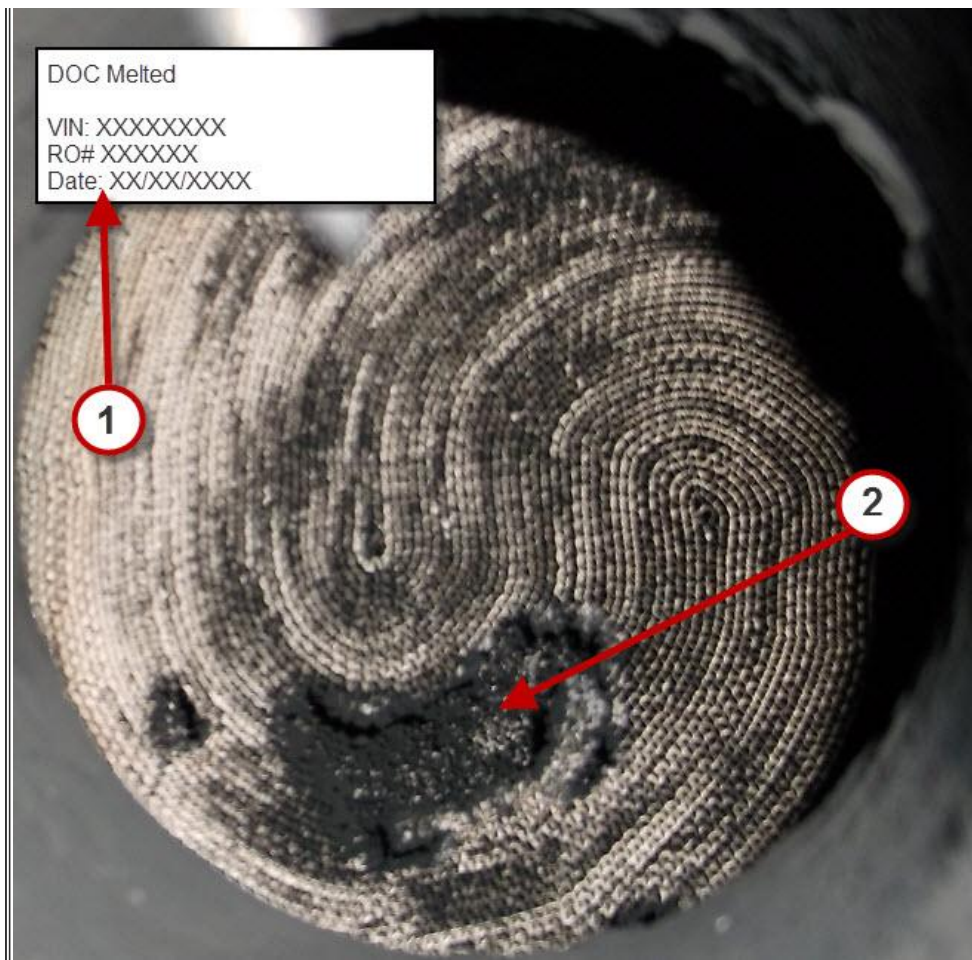

Figure 11: Melted DOC
4. A detailed explanation of what the root cause of failure was if applicable should be included as shown in figures 11 and 12 below, however if unable to determine the root cause ensure unit meets all performance specifications per its diagnostic manual before releasing.